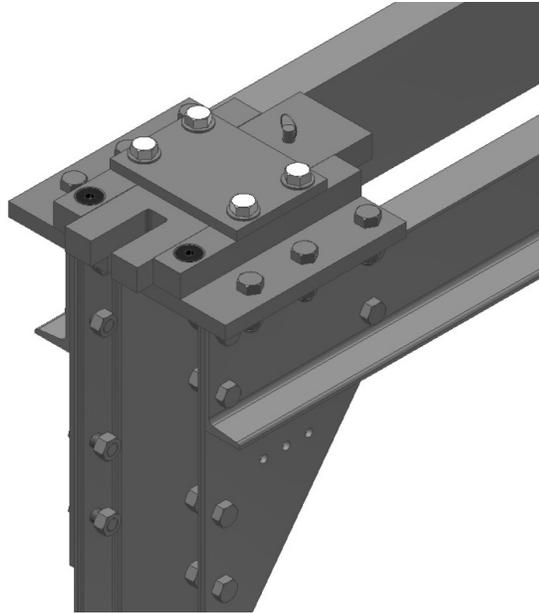

Figure 4
- After the switches have been wired, install the rail locks on the car sling crosshead. The hardware to mount the rail lock to the car sling will be provided with the car sling. The bolts supplied to mount the rail lock to the car sling are 5/8" diameter, grade 5 (minimum), with heavy duty nuts and tapered washers. (Bolts adhering to ASTM A325 are also suitable.) Refer to Figure 4.